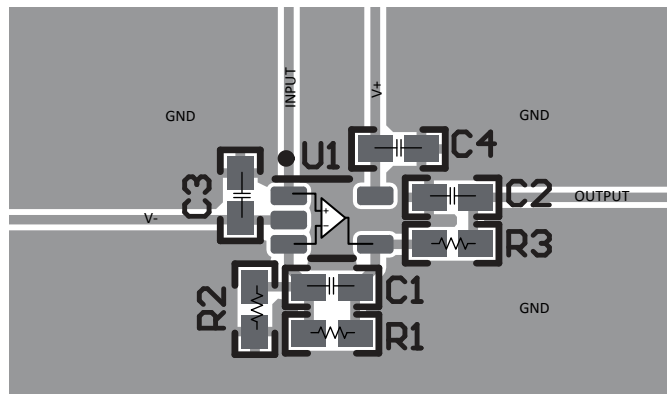

图 7-4. Operational Amplifier Board Layout for Non-inverting Configuration - SC70 (DCK) Package
- Place the external components as close to the device as possible. As shown in 图 7-4, keeping RF and RG close to the inverting input minimizes parasitic capacitance.